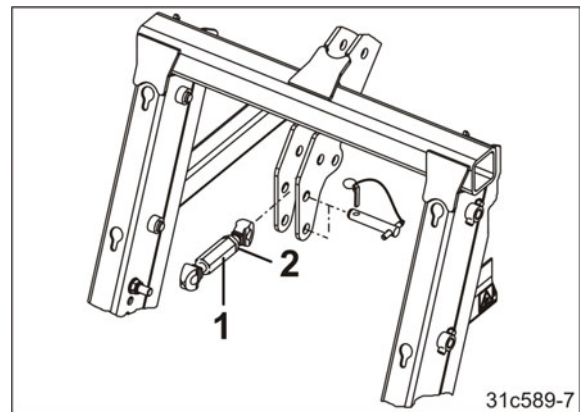

Fig. 95
8. Position the top link (Fig. 95/1) to the top pivot point (Cat. II) of the seed drill.
10. Align the seed drill so that it is straight by lengthening or shortening the top link. Secure the position of the top link with the lock nut (Fig. 95/2).